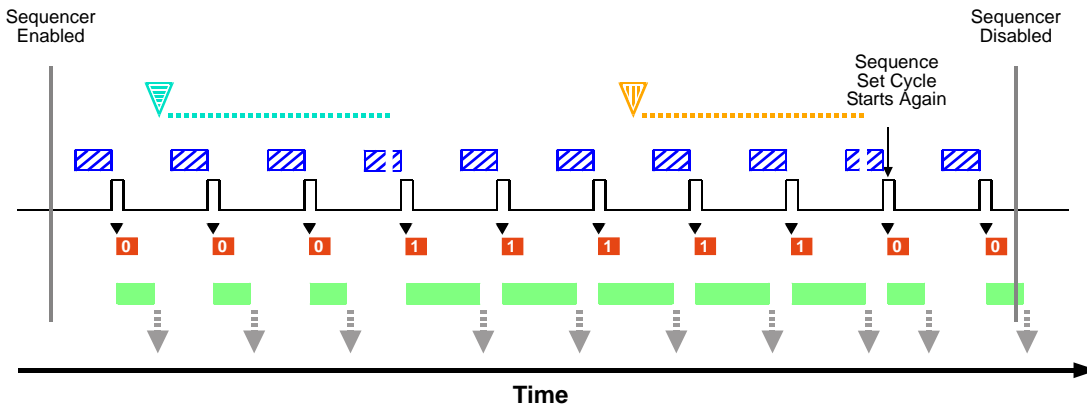

Fig. 107: Sequencer in Controlled Sequence Advance Mode with Disabled as the Sequence Control Source and Asynchronous Advance and Restart
The following use case (see also Figure 107) illustrates the operation of the sequencer in controlled sequence advance mode with Disabled selected as the sequence control source. Sequence set advance proceeds in ascending sequence set index numbers subject to asynchronous advance commands. After one sequence set cycle is complete, another one starts. Sequence set cycle restarts are subject to asynchronous restart commands.
- When the AsyncAdvance command becomes effective, the camera happens to be in "waiting for frame start trigger" status. The parameter values of the next sequence set, i.e. of sequence set 1, are loaded into the active set. Note that the camera briefly exits the "waiting for frame start trigger" status while the parameter values of sequence set 1 are loaded into the active set (see also Figure 107).
- When the AsyncRestart command becomes effective, the camera happens to be in "waiting for frame start trigger" status. The parameter values of sequence set 0 are loaded into the active set. Note that the camera briefly exits the "waiting for frame start trigger" status while the parameter values of sequence set 1 are loaded into the active set (see also Figure 107).